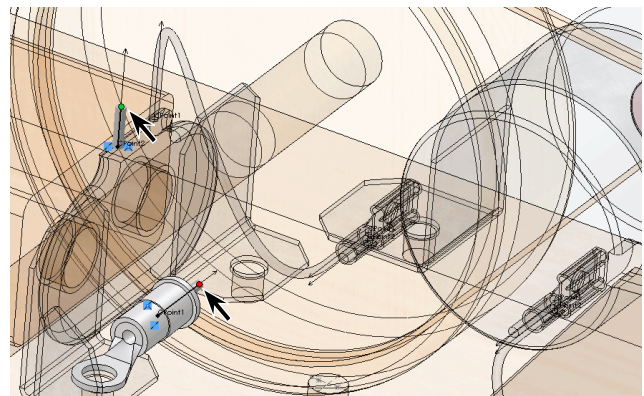

Fig. 6
Step 6. Click **CPoint2** on left side of **Battery Clip** and **CPoint** on **Ring Terminal**, Fig. 6.